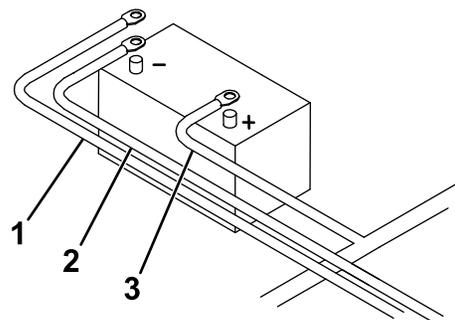

Figure 18
13. Connect the black power/ground cable to the negative (-) battery terminal (Figure 18).
14. Connect the brown wire with the large ring connector from the wire harness to the negative (-) battery terminal (Figure 18).
- Connect the free end of the battery cable to the positive (+) battery terminal (Figure 18).